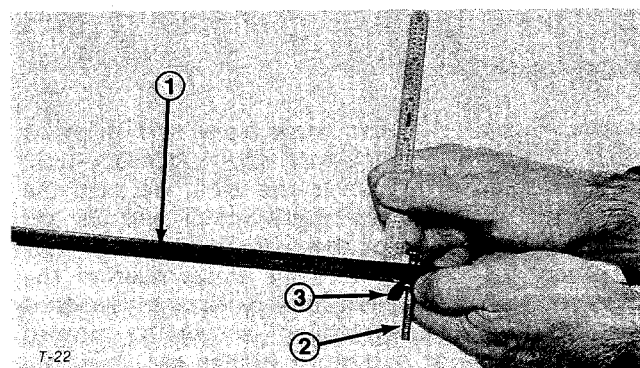

Figure 21
1. Loosen wing nut on gauge bar and set adjusting screw to obtain desired distance between bottom of screw head and face of bar (Fig. 21). Tighten wing nut, making sure adjustment is not altered.